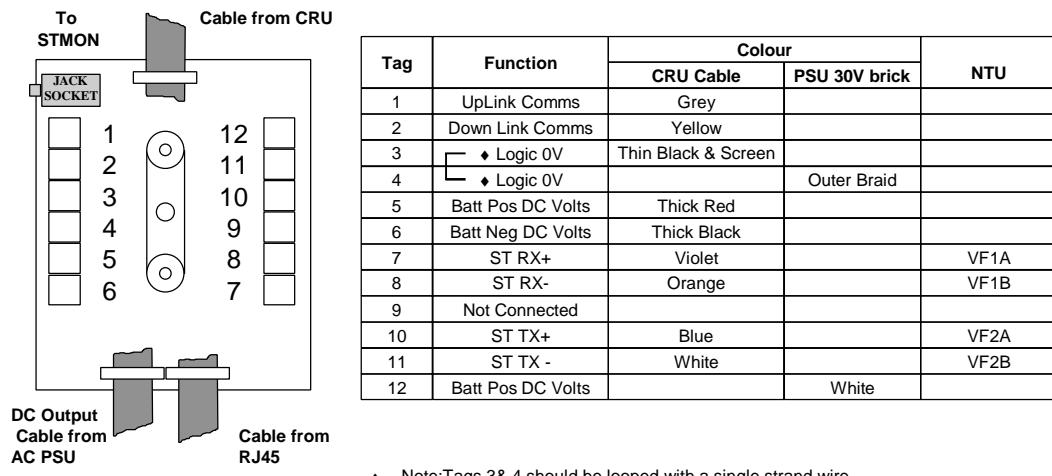

Figure 35. Drop Cable Connections to Junction Box.
8. Figure 35 below, illustrates the connections of the drop cable to the connector blocks inside the Junction Box. The diagram shows the order of wire insertion to ensure that the cables fit in the junction box. When connecting the thick stranded wire ensure that the screws are fully undone and the hole fully opened to allow the wire to be inserted without displacing strands. A wire loop should be inserted between tags 3 & 4.